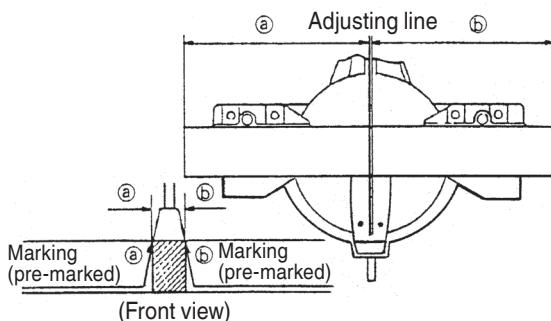

Fig. 22
- (1) As shown in Fig. 22 the width of the saw blade is the width of the cut. Therefore, slide the workpiece to the right (viewed from the operator's position) when length ④ is desired, or to the left when length ③ is desired.